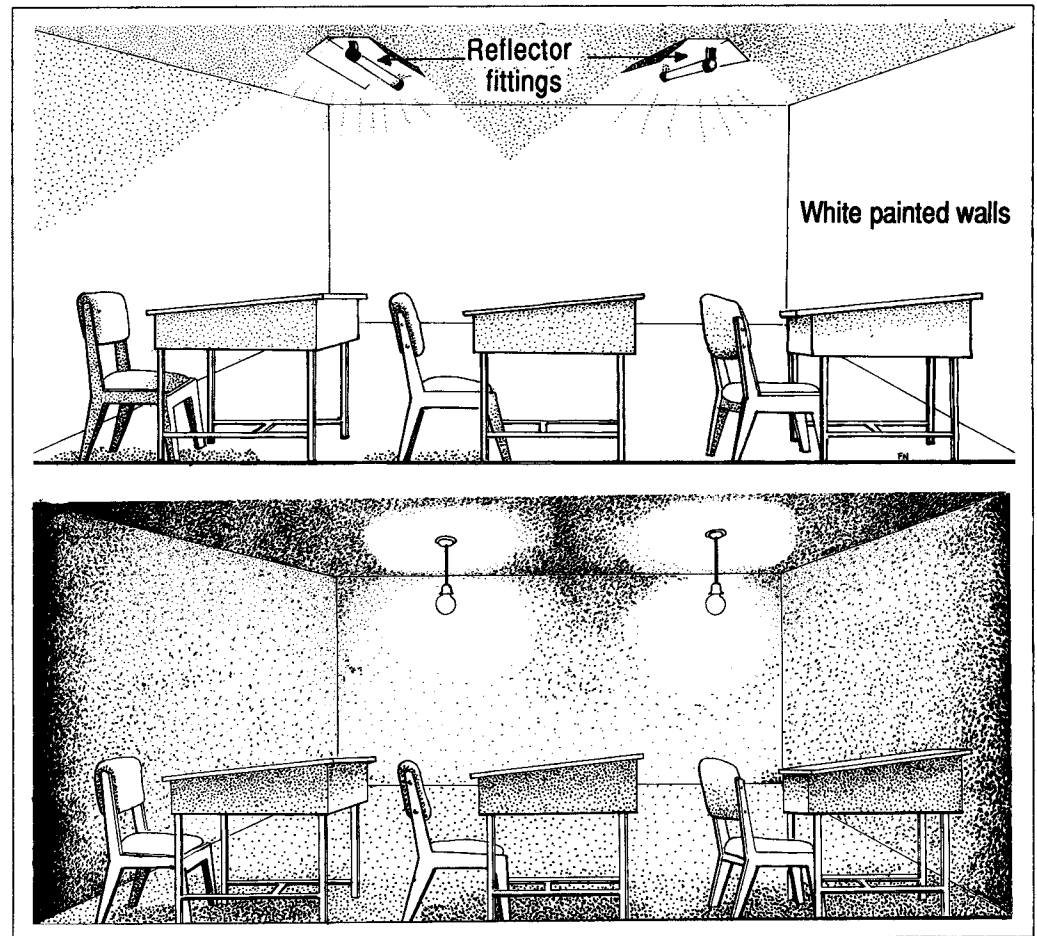

Figure 6.10 Classroom lighting. Fluorescent lamps fitted with reflectors provide a much brighter light for study than incandescent lamps.
- *Classrooms.* The large areas of classrooms must be provided with enough light for reading. Experience in Kenya indicates that students can read well in the typical 8m x 10m classrooms under two 15W fluorescent lamps fitted with stainless steel reflectors (see Figure 6.10).